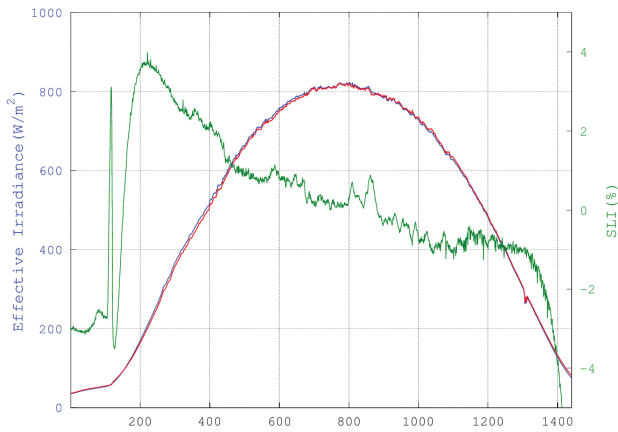

Figure 1: Effective irradiance as calculated from the short-circuit current of the PV modules on a clear-sky day. The green curve shows daily soiling loss.
Figure 1 shows the effective irradiance calculated from the short-circuit current from the two panels. The figure also shows the calculated soiling-loss index (SLI) as a percentage. The asymmetry in SLI during morning and afternoon hours can be attributed to two reasons: (1) a misalignment in the installation of the panels, and (2) effects due to a large angle of incidence of solar irradiance during morning and afternoon hours. In order to avoid these, a daily average of SLI is calculated from measurements around two hours before and two hours after the solar noon at the location.